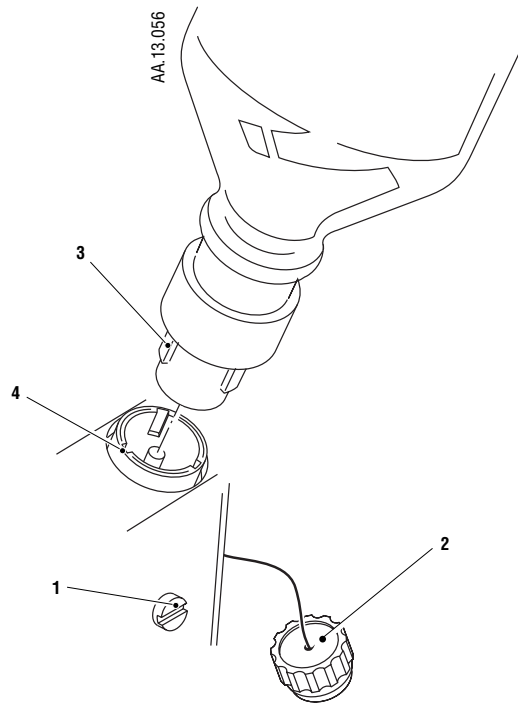

Fig. 10 Filling A Vaporizer Which Incorporates A Quik-Fil™ Filler
2. Remove the filler cap (2) and insert the bottle nozzle into the filler block. Rotate the bottle to align the bottle filler nozzle keys (3) with the index slots (4) in the filler block as illustrated on Fig. 10.
5. Withdraw the bottle from the vaporizer filler and replace the filler cap (2) and the cap on the agent bottle. Ensure that the filler cap is tightened to minimise any possibility of leaks.